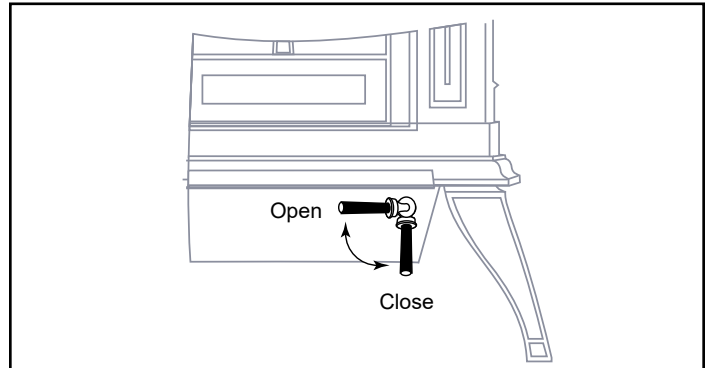

Figure 5.8- Turn the ashdoor handle clockwise to open and counterclockwise to close.
- Close the griddle or doors, and unlatch the ash door, Figure 5.8. It will pivot, swinging the ash pan out of the stove.